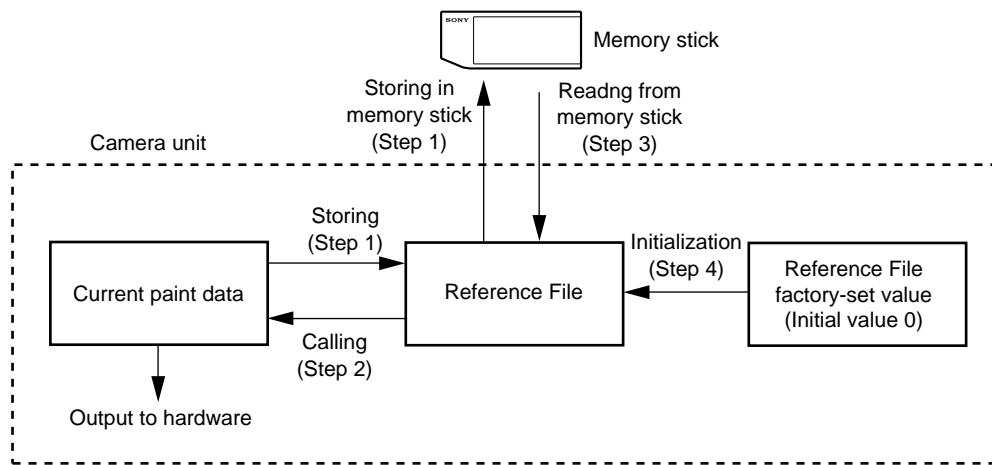

Fig. 5-4. Operating Procedure for Reference Files
### Storing Using the Setup Menu (Refer to step 1 of Fig.5-4.)
### Storing by MSU (Refer to step 1 of Fig.5-4.)
### Calling Using the Setup Menu (Refer to step 2 of Fig. 5-4, Fig. 5-1.)
### Calling with MSU (Refer to step 2 of Fig. 5-4.)
**Reading the Reference File from the Memory Stick (Refer to step 3 of Fig. 5-4.)**
**Storing the Reference File to the Memory Stick (Refer to step 1 of Fig. 5-4.)**
**Initializing All File Items Using the Setup Menu (Refer to step 4 of Fig. 5-4.)**
### Initializing Only Specified Items Using the Setup Menu (Refer to step 4 of Fig. 5-4.)